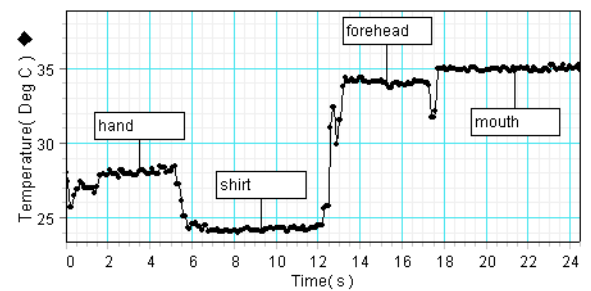

Figure 3: Various body parts
- Measure the temperatures of your hand, face, clothes, and the inside of your mouth (Figure 3).